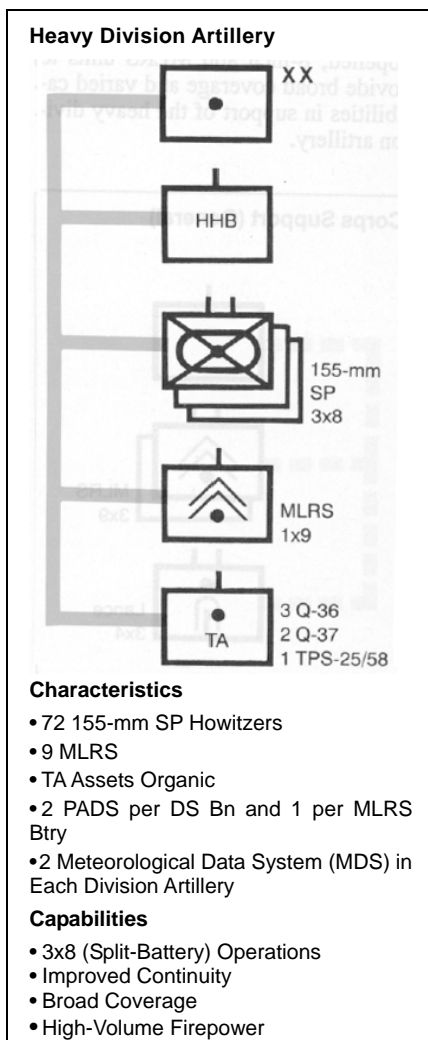

Figure 5: New Organization and Features of the Heavy Division Artillery Under AOE
In this structure, we removed the less maneuverable and survivable 8-inch from the divisional force but retained the MLRS battery to provide general support (GS) fires. Figure 5 depicts the new organization and features of the heavy division artillery under AOE.